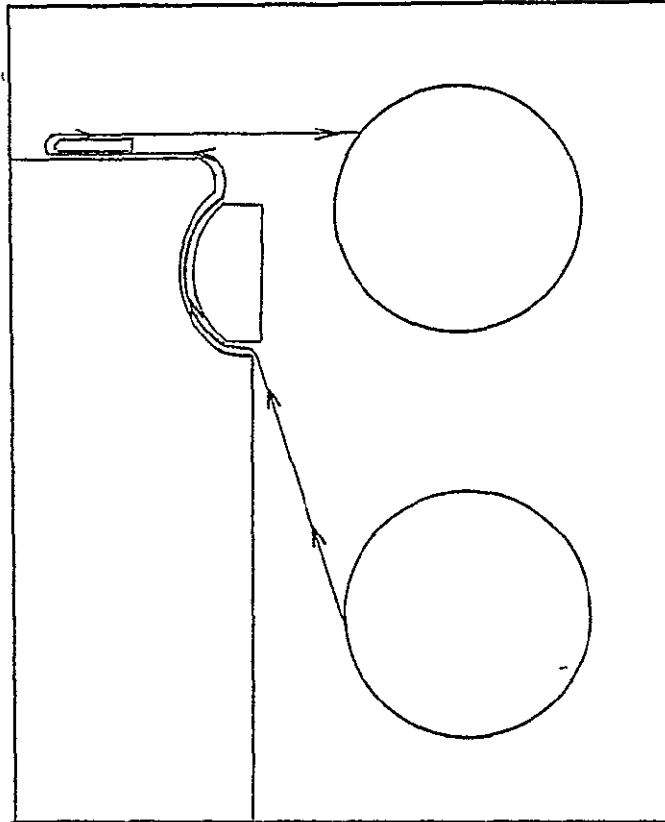

Figure 2-5
- o Mount the magnetic tape reel on the lower capstan and thread the tape according to Figure 2-5. If a write enable ring is not mounted on the file reel, the FILE PROT indicator is illuminated and the tape can be read, but not erased or written. Thus, if the tape files are only to be read, but it is not anticipated that any files will be added to the tape, the user may leave off the write enable ring to protect his tape from accidental erasure.